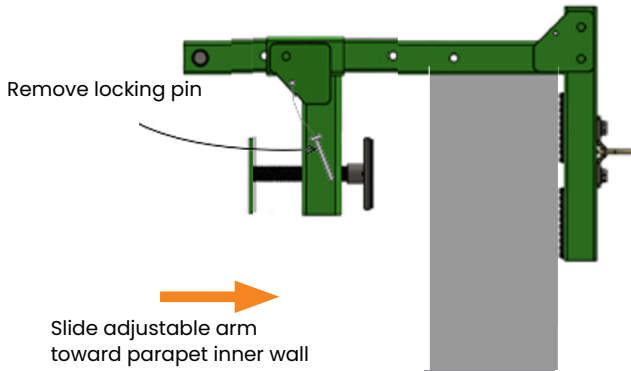

Figure 6 – Remove The Locking Pin Out of The Adjustable Arm
2. Once anchor has been positioned, remove the locking pin out of the adjustable arm and then move the adjustable arm as close as possible to the parapet inner wall as shown on figure 6.